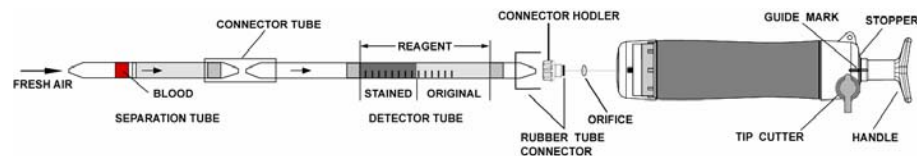

Fig.1
- ① Break both ends of the detector tube and separation tube.
- ② Connect the detector tube and separation tube with the connector tube as shown in Fig.1.
- ③ Insert the detector tube into the aspirating pump securely. (An arrow mark on the detector tube should point to the aspirating pump.)
- ④ Take 0.2mL of blood (NOTE I) into a 1mL syringe and insert it into the separation tube.
- ⑤ Align the guide marks on the handle and the stopper of the aspirating pump.
- ⑥ Pull the pump handle at full stroke locked position.
- ⑦ Insert 0.2mL of water and aspirate fresh air for 5 minutes. (NOTE II) (NOTE III)
- ⑧ Remove the detector tube from the rubber tube connector and read the scale at the maximum point of the stained layer.
- ⑨ The scale is calibrated at 20°C (68°F). Readings obtained in other circumstances should be corrected by using "5. TEMPERATURE CORRECTION TABLE".
- ⑩ Convert the tube reading by using "6. CONVERSION CHART" and obtain the true concentration